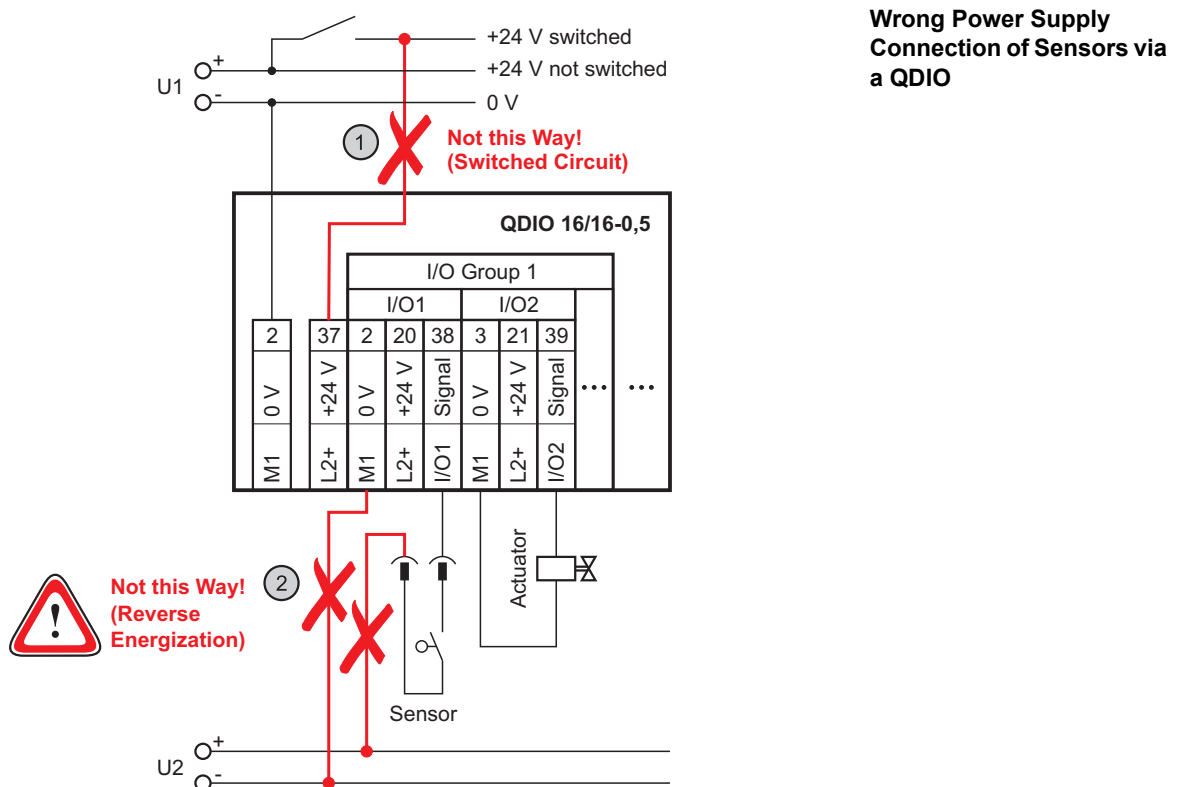

Figure 16: Wrong Power Supply Connection of Sensors via a QDIO
- ① The attached sensors must be supplied with power from a permanently connected (unswitched) power supply that cannot be individually switched off, without switching off the module's power supply. Power must not, as shown in figure 16 on page 36, be supplied from switched power circuits!
- ② The sensors within an I/O group must always be supplied with power from the same power supply that supplies the relevant I/O group. They must not, as shown in figure 16 on page 36, be supplied from a separate power supply (due to the danger of reverse energization)!
- ③ Outputs may be supplied with power from a switched power supply, for example with intermediate devices (emergency stop, manual operation, etc.).